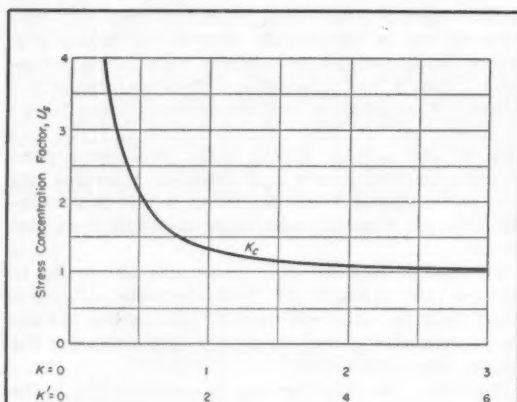

Fig. 4—Analytical curve for correlation of the stress concentration factor to empirical constants K and K' .
2. Computations are relatively simple if use is made of the curve of Fig. 4.
Step 6: For each experimental point calculate the stress concentration factor U/s . According to Equation 8 this is equal to $(1/K_c) \coth (1/K_c)$. From the curve, Fig. 4, which correlates $(1/K) \coth (1/K)$ with K , read on the K scale the values of K_c corresponding to the computed values of U/s . Calculate also the corresponding values of $\sqrt{t t'}/l$.
and the corresponding values of K_d may be read from the K' scale, Fig. 4.